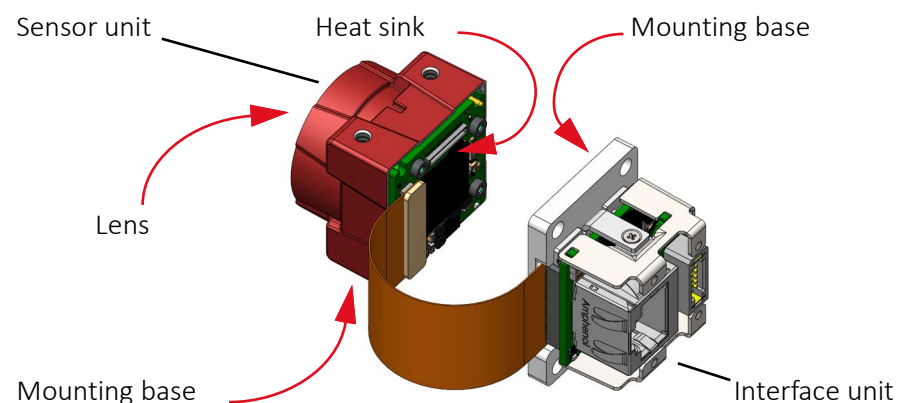

Figure 4: Heat dissipation for Alvium G1 BL cameras
- Observe that not only the sensor unit must be cooled, but also the interface unit as shown in Figure 4.